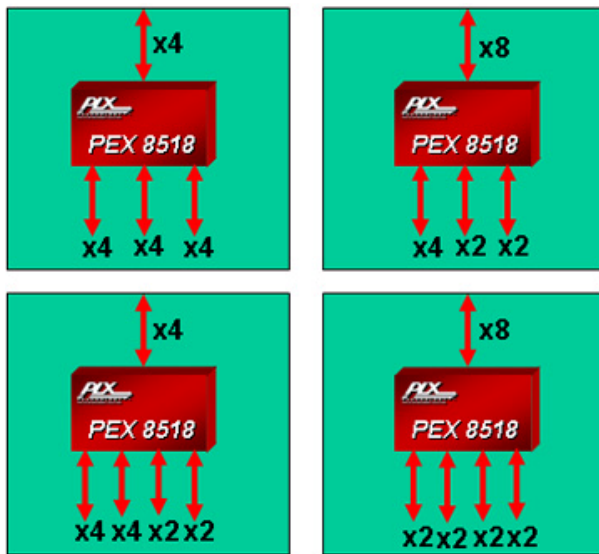

Figure 1. Common Port Configurations
The PEX 8518 supports a large number of port configurations. For example, if you are using the PEX 8518 in a fan-out application, you may configure the upstream port as x8 and the downstream ports as four x2 ports; two x2 & one x4 ports; three x1 ports; or other combinations, as long as you don't run out of lanes (16) or ports (5). In a port aggregation application you can configure three x2 or x1 ports for aggregation into one x8 or x4 port. Figure 1 shows the most common port configurations.